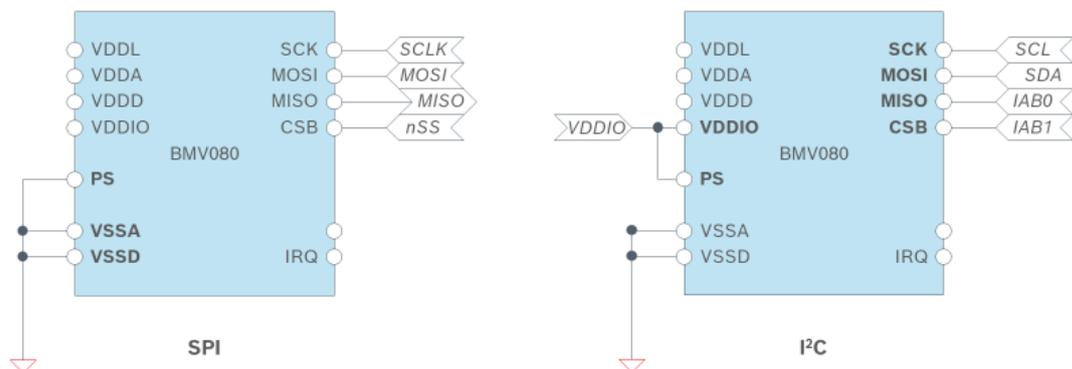

Figure 33: Configurations to select communication interface (SPI / I²C)
- The protocol select (PS) pin is a logic input to configure the type serial interface, SPI, or I²C
- Figure 33 shows how the PS pin can be connected to select SPI or the I²C protocol